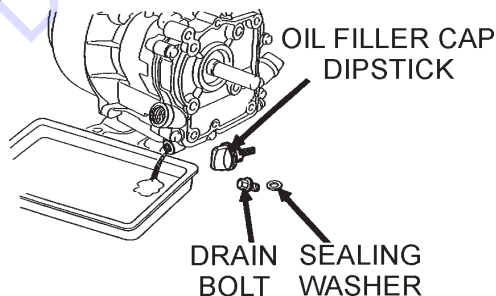

Figure 21. Engine Oil (Draining)
- Drain the engine oil when the oil is **warm** as shown in Figure 21.